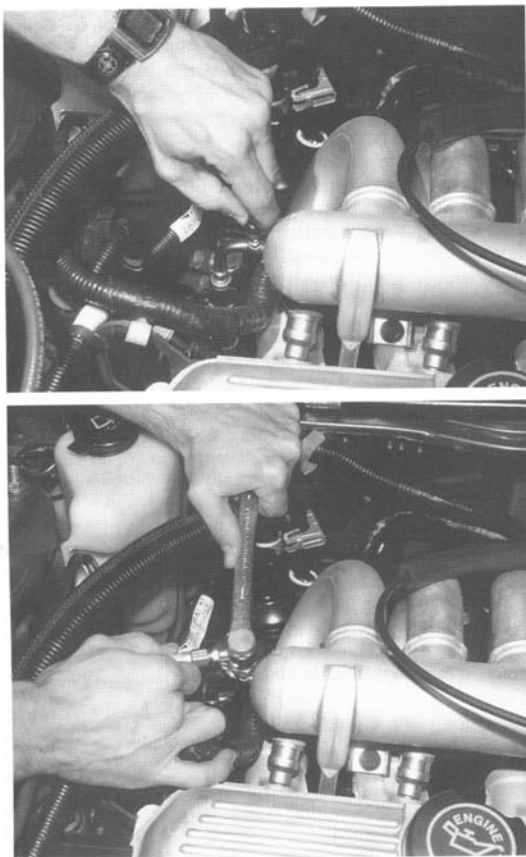

Fig. 2-1. Fuel pressure gauge attachment to EEC systems is easy. Look for Schrader valve fitting on fuel rail. Attach gauge to fitting and tighten.
1. Attach the fuel-pressure gauge. Look for a fitting on the fuel rail. See Fig. 2-1. Be sure to tighten the gauge onto the valve.